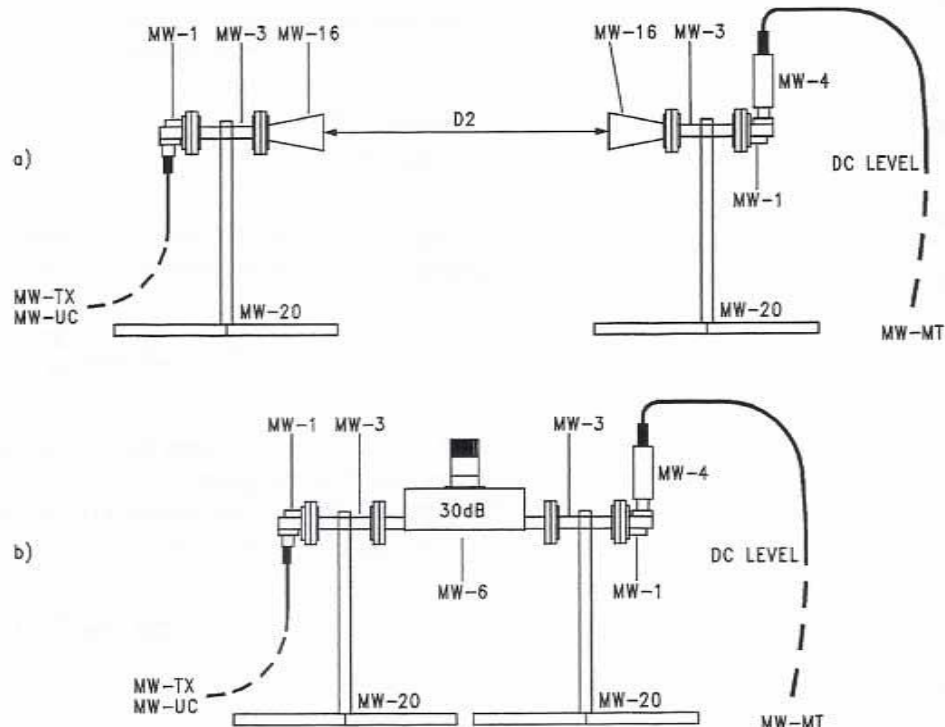

Figure 1
3. Carry out the wiring as indicated in *Figure 1* between the units
8. The gain GMW16 of antenna is calculated using (1)